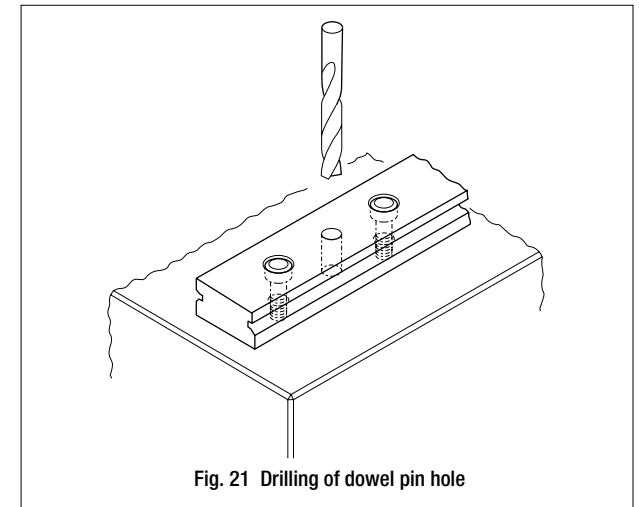

Fig. 21 Drilling of dowel pin hole
④ Drilling for dowel pin hole (Fig. 21)
⑤ Mounting of way at table side
⑥ Assembling of table and bed
⑦ Preload adjustment